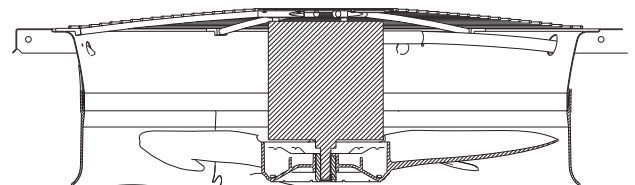

Fig. 29 — Condenser Fan Adjustment
2. Remove condenser-fan assembly (grille, motor, and fan). See Fig. 29.